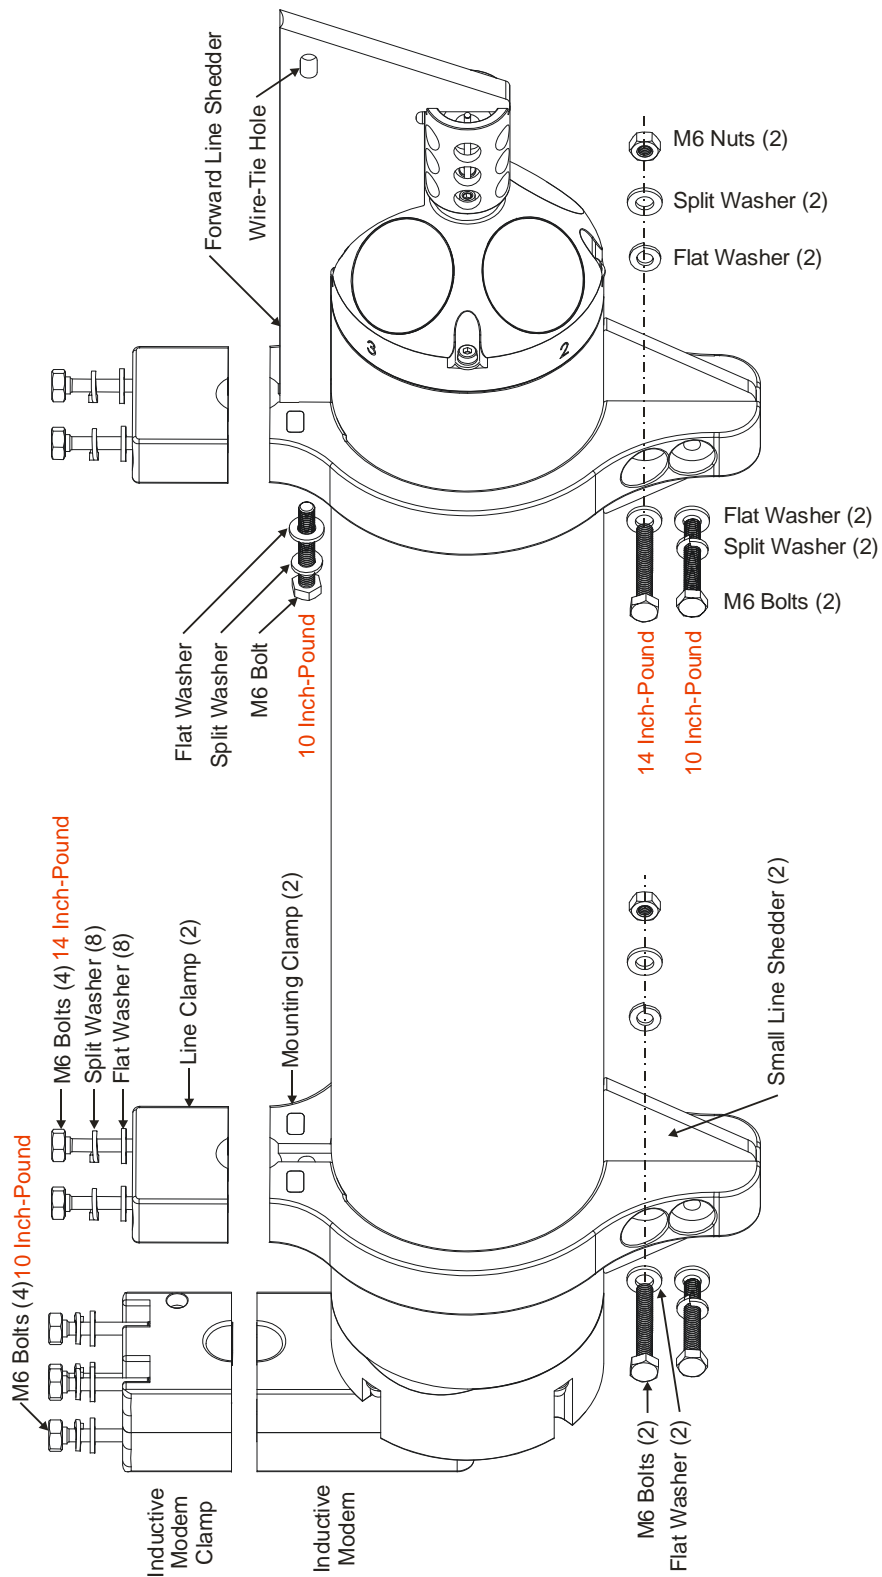
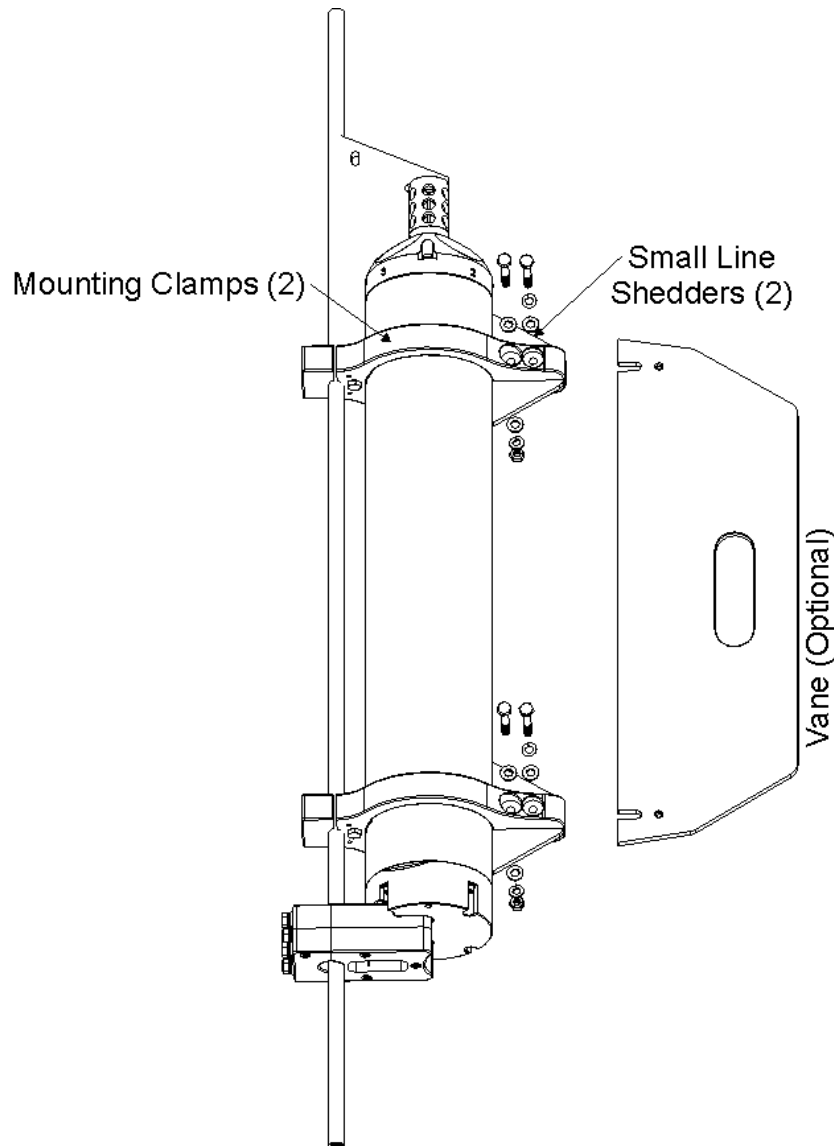

Figure 6. Mounting Hardware
Figure 7. DVS Optional Vane Installation
1. Install the two mounting clamps and line shedders on the DVS housing (see Figure 6).
There are two types of forward shedders – one for DVS with thermistor (shown in Figure 6) and another one for standard temp sensor.
2. Install the vane using the hardware from the two small line shedders (see Figure 7).
1. Remove the small line shedders or optional vane if installed (see Figure 6 and Figure 7). The CTD clamps are installed in their place.